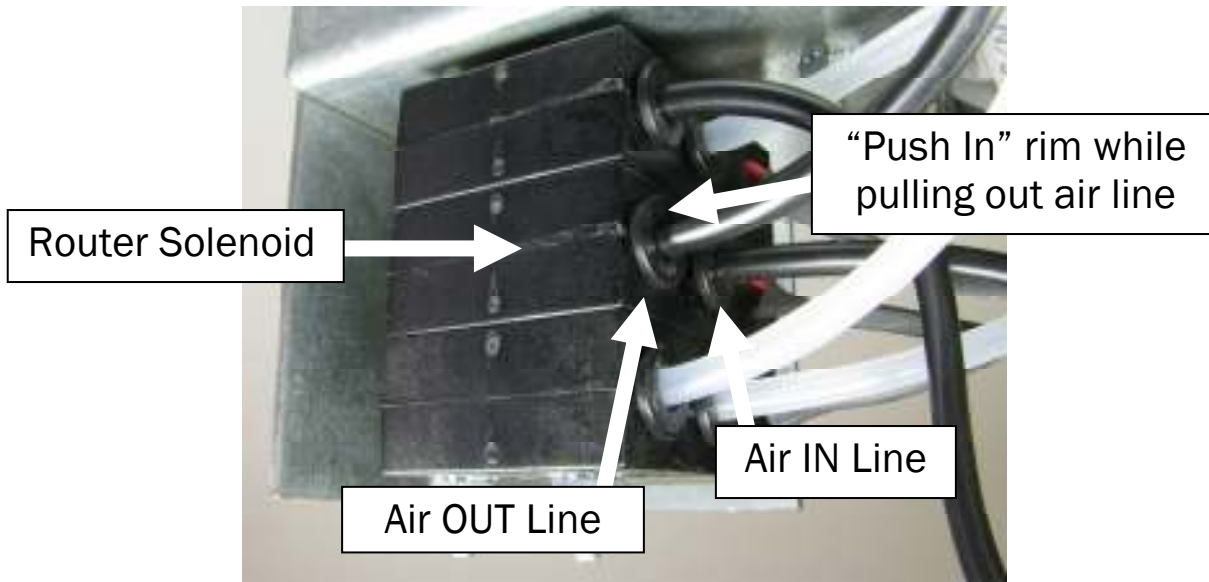

Figure 13
1. **Disconnect power and air from the machine.** Remove both air lines from the Router Solenoid. **See fig.13.**